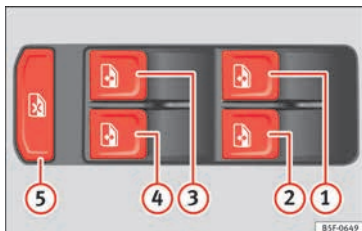

Fig. 128 Detail of the driver door: controls for the windows.
Press the safety button » **Fig. 128** to deactivate the controls on the rear doors. Pressing the safety button again will reactivate the controls on the rear doors.
- For safety reasons, use safety button » **Fig. 128** that deactivates the window switches on the rear doors when children are travelling in the rear seats.